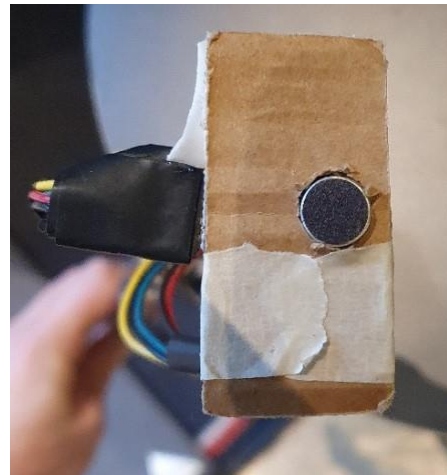

Figure 2.1 – How the microphone should be affixed to the front plate
2. Affix the microphone to the rear of the front plate with the capsule extending through the hole (figure 2.1).